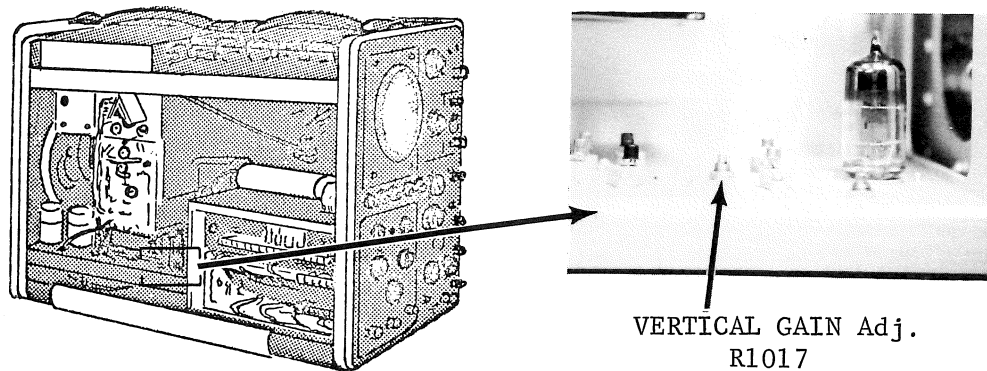

Figure 19
3. Adjust the VERTICAL GAIN adjustment (R1017 - see Fig. 19) for exactly 4 cm of vertical deflection.